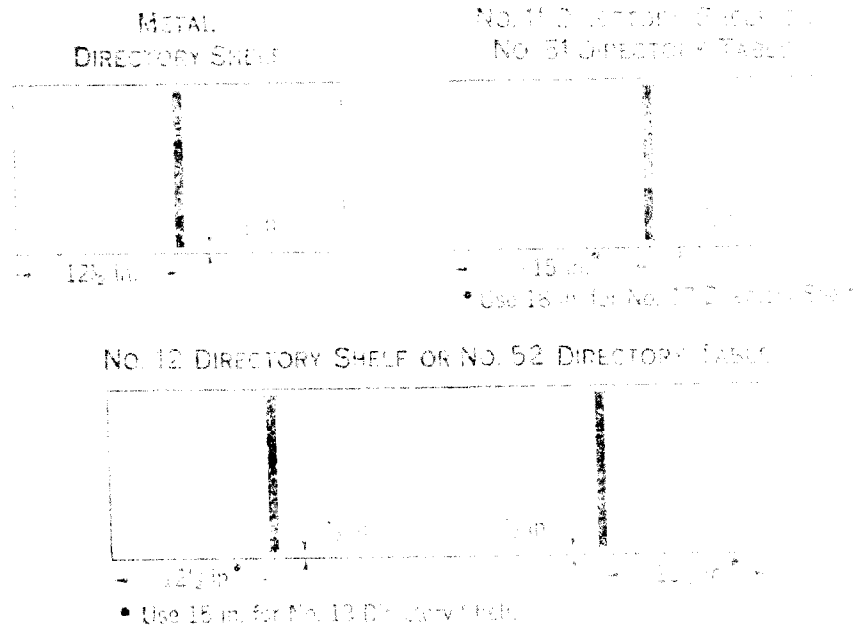

Fig. 1—Locating Directory Fasteners.
1.03 **Directory Fasteners:** Locate fasteners on standard or special directory shelves and tables as shown in Figs. 1 and 2 and secure with 3/4 inch No. 8 R.H. Blued Wood Screws